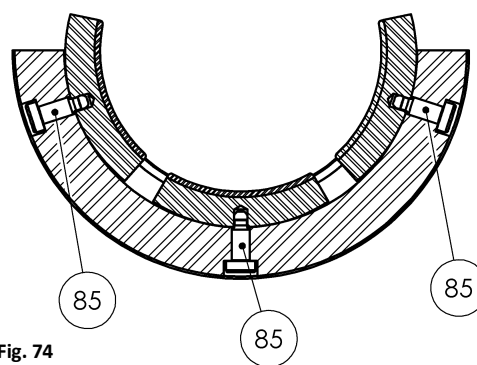

Fig. 74
- Screw the lock bolts (85) around the both halves of the bearing shell to lock the pads (Fig. 74).